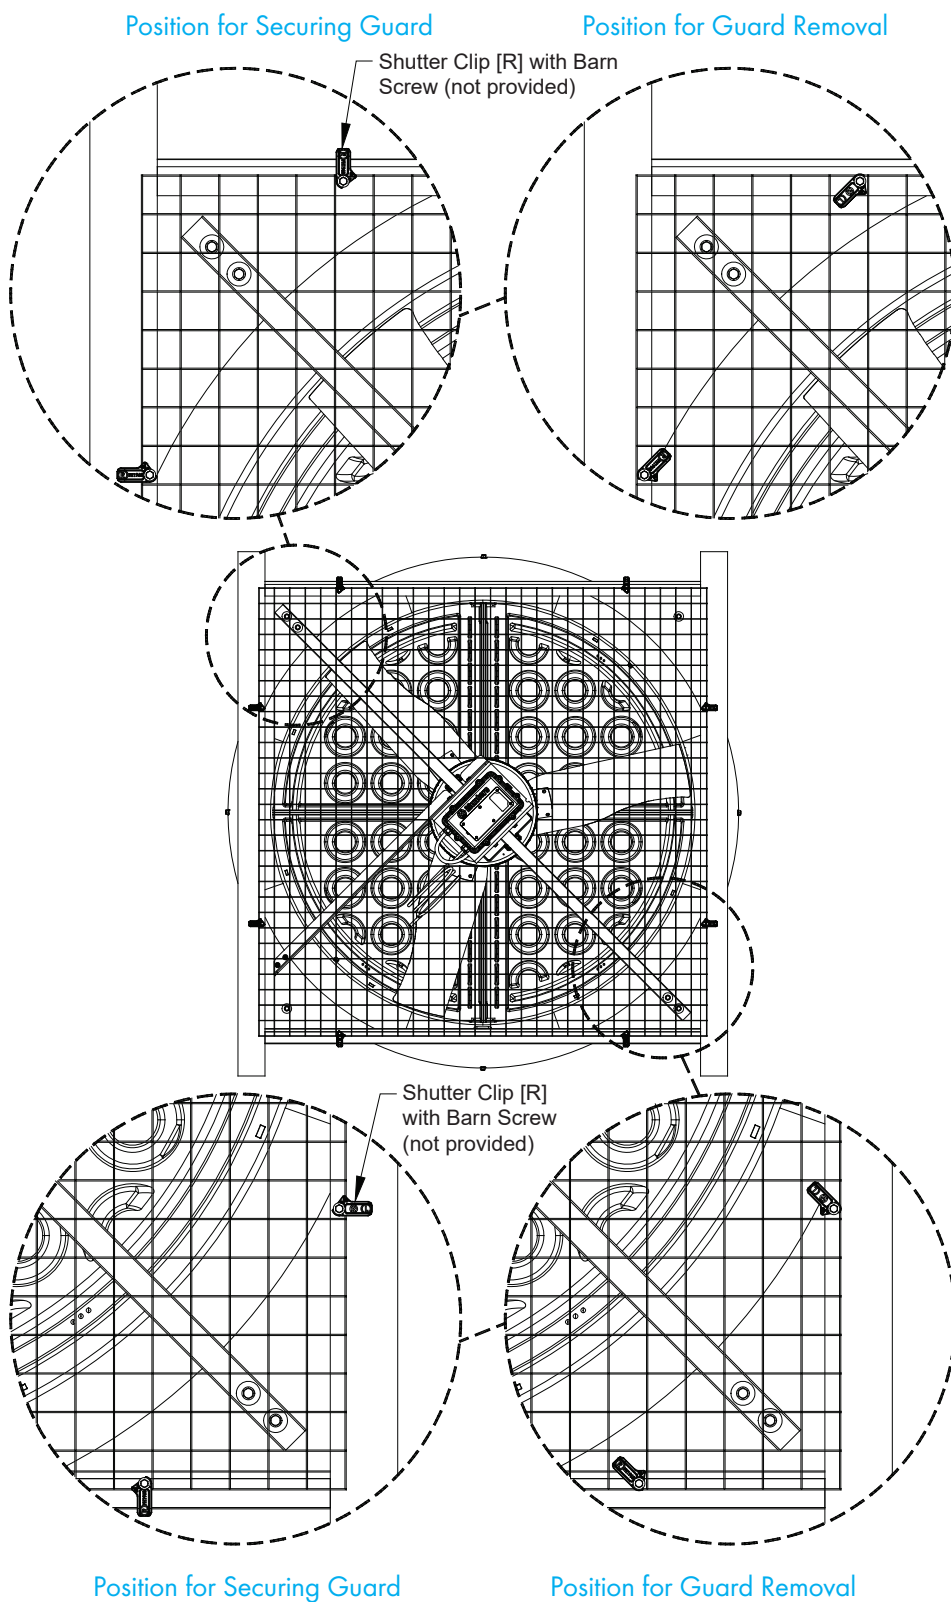

Figure 24B
Place guard against framing and fasten guard in place using (8) Shutter Clips [R] and Barn Screws (not provided), 2 per side. See Figure 24B.